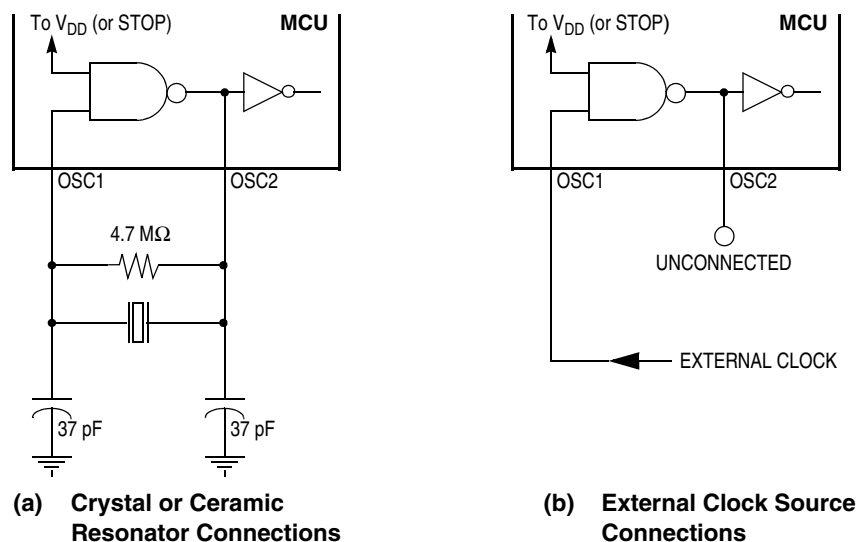

Figure 1-2. Oscillator Connections
1. A crystal as shown in Figure 1-2(a)
2. A ceramic resonator as shown in Figure 1-2(a)
3. An external clock signal as shown in Figure 1-2(b)
The circuit in Figure 1-2\(a\) shows a typical oscillator circuit for an AT-cut, parallel resonant crystal. Follow the crystal manufacturer's recommendations, as the crystal parameters determine the external component values required to provide maximum stability and reliable startup. The load capacitance values used in the oscillator circuit design should include all stray capacitances. Mount the crystal and components as close as possible to the pins for startup stabilization and to minimize output distortion.
In cost-sensitive applications, use a ceramic resonator in place of a crystal. Use the circuit in Figure 1-2\(a\) for a ceramic resonator and follow the resonator manufacturer's recommendations, as the resonator parameters determine the external component values required for maximum stability and reliable starting. The load capacitance values used in the oscillator circuit design should include all stray capacitances. Mount the resonator and components as close as possible to the pins for startup stabilization and to minimize output distortion.
An external clock from another CMOS-compatible device can be connected to the OSC1 input, with the OSC2 input not connected, as shown in Figure 1-2\(b\).